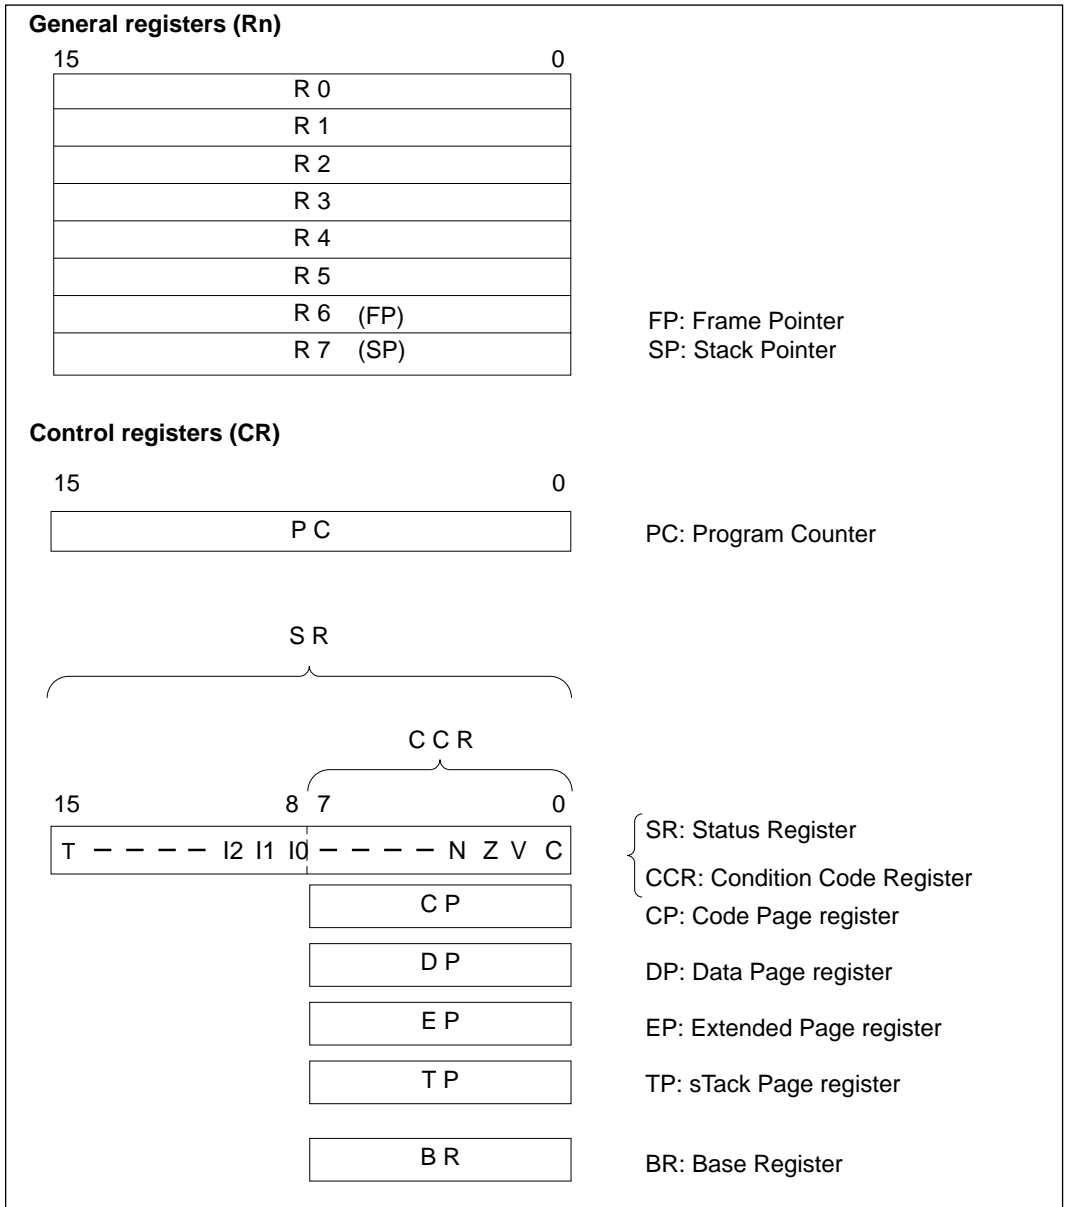

Figure 3-2 Registers in the CPU
Figure 3-2 shows the register structure of the CPU. There are two groups of registers: the general registers (Rn) and control registers (CR).